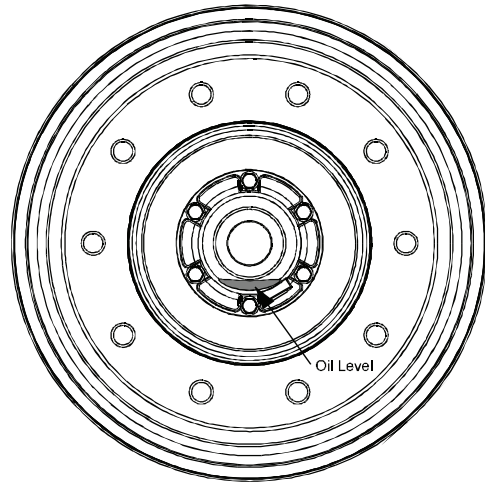

Figure 18 - Wheel Bearing Oil Level
2. Check oil level through hub cap window. If level is below the “add” level line then remove the pipe plug and fill with recommended oil until “full” level is achieved. (See Figure 18). Add oil slowly since the heavy weight oil will settle slowly in the hub. (Note: The hub cap window can only be cleaned with mild soap and water. Aromatic solvents should not be used as they will impair the transparency of the window.)